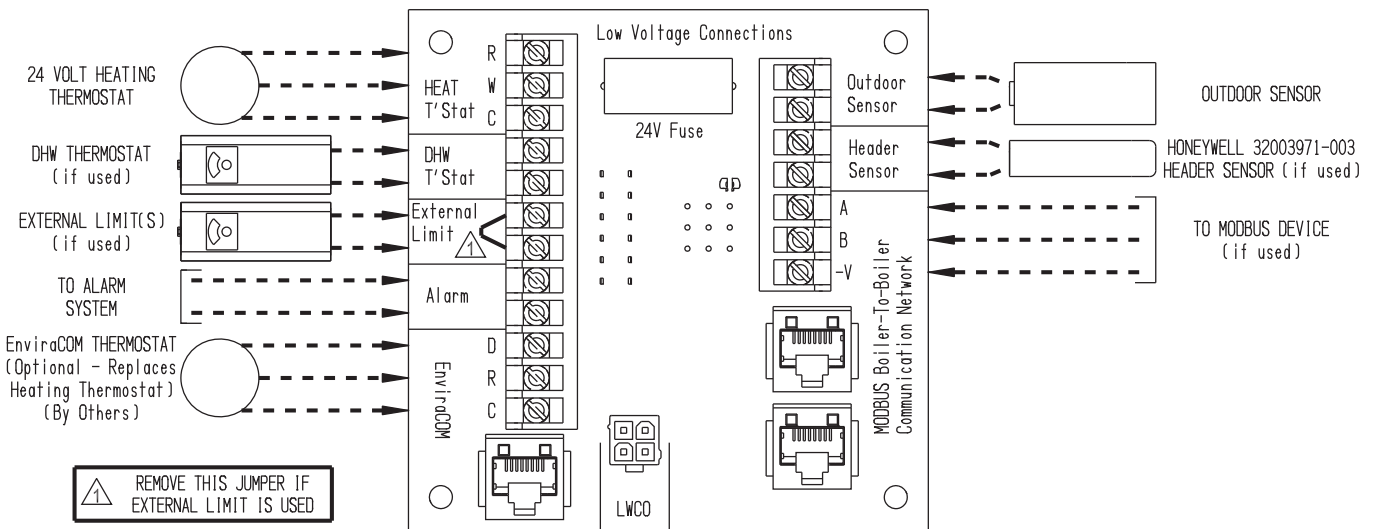

FIGURE 10.3: LOW VOLTAGE PCB TERMINAL CONNECTIONS
**This boiler is equipped with a listed high water temperature limit function. This limit provides boiler shutdown in the event the boiler water temperature exceeds the set point of the limit control. Certain Local Codes require an additional water temperature limit. If necessary, install an additional water temperature limit such as a Honeywell L4006 Aquastat. Wire as indicated in Figure 10.3.**
2) Low Voltage Connections – Low voltage field connections on the low voltage PCB are shown in Figure 10.3 and are listed from top to bottom:
- DHW Stat - 24VAC domestic hot water thermostat (1)
- DHW Stat - 24VAC domestic hot water thermostat (2)
- External Limit - Field supplied low voltage safety limit contacts (1)
- External Limit - Field supplied low voltage safety limit contacts (2)
- Alarm Contact (1)
- Alarm Contact (2)
- EnviraCOM Device (D)